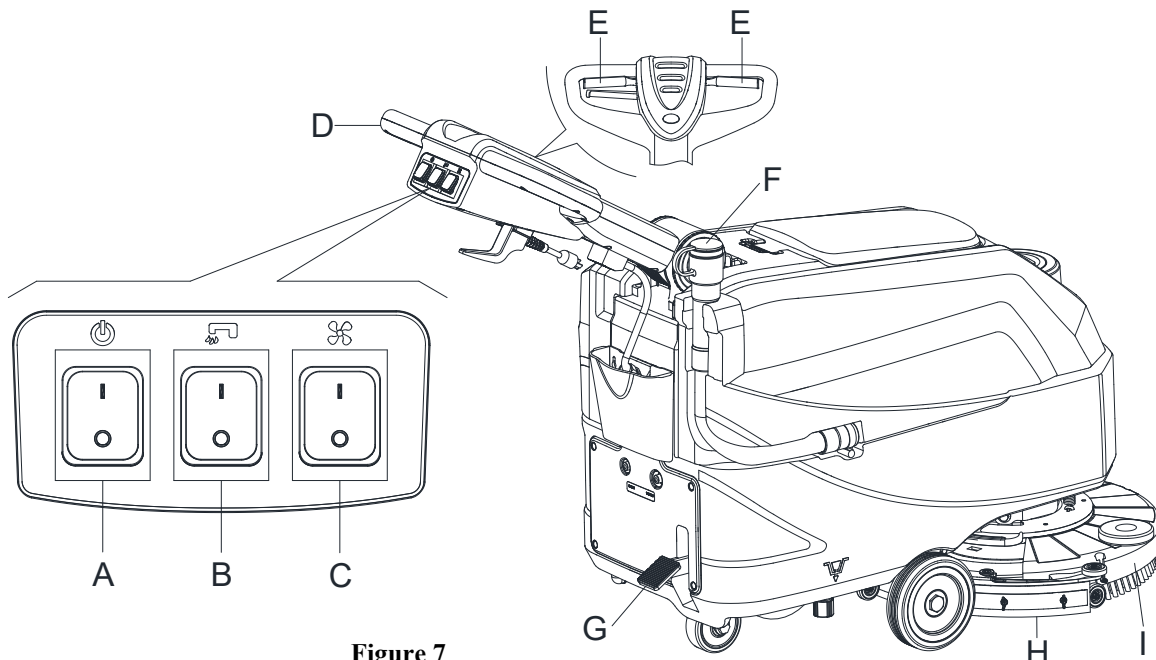
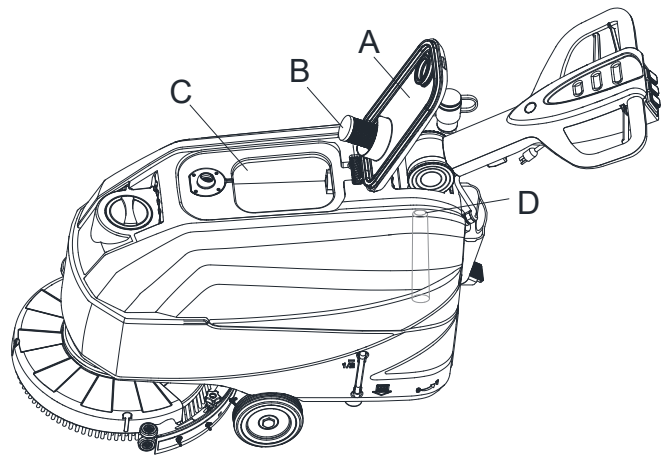

Figure 7
Figure 9
2. Push the machine to the area to be cleaned, by pushing it with the hands on the handlebar (D, Figure 7).
3. Lower the brush/pad-holder deck (I, Figure 7) and the squeegee (H) by lifting the pedal (G).
4. Press the power switch (A, Figure 7) to the "I" position.
5. Press the solution switch (B, Figure 7) to the "I" Position. (Work simultaneously with the safety switch (E) to control the solenoid valve.)
6. Press the vacuum switch (C, Figure 7) to the "I" position.
7. Start cleaning by pushing the machine with the hands on the handlebar (D, Figure 7) and pressing the safety switch lever (E, Figure 7).
To move the machine forward, press either the left or right safety switch lever (E, Figure 7) or both.
1. Stop the machine by using the handlebar (D, Figure 7).
2. When you have finished using the machine, release the safety switch lever (E) to turn off the brush/pad-holder and solenoid valve.
3. Press the solution control switch (B) to the "OFF" position to completely turn off the solution flow.
4. Press the Vacuum switch (C) to the "OFF" position. The vacuum system stops after a few seconds.
6. Lift the brush/pad-holder deck (I, Figure 7) and the squeegee (H) by pressing the pedal (G).
2. While keeping both hands on the handlebar press the safety switch lever (E, Figure 7), then maneuver the machine and start scrubbing/drying the floor.
An automatic float shut-off system (B, Figure 9) blocks the vacuum system when the recovery water tank (C) is full. The vacuum system deactivation is signaled by a sudden increase in the vacuum system motor noise frequency, also the floor has not dried.
If the vacuum system turns off accidentally (for example, when the float is activated because of a sudden machine movement), to resume the operation: press the power switch (39 and 41) to turn off the power and vacuum system, then open the cover (A, Figure 9) and check that the float inside the grid (B) has gone down to the water level. Then close the cover (A) and press the power switch (39 and 41) turn on the main power and the vacuum system.
When the recovery water tank (C, Figure 9) is full, empty it according to the following procedure.
2. Lift the brush/pad-holder deck (I, Figure 7) and the squeegee (H) by pressing the pedal (G).
4. Empty the recovery water tank with the hose (F, Figure 7). Then, rinse the recovery tank (C, Figure 9) with clean water.
5. Remove the recovery tank lid (A, Figure 9) and clean the inside of the cover and the filter floater grid (B) with clean water.
6. Check the recovery tank (D, Figure 9) whether there is foreign body jam and clean it.